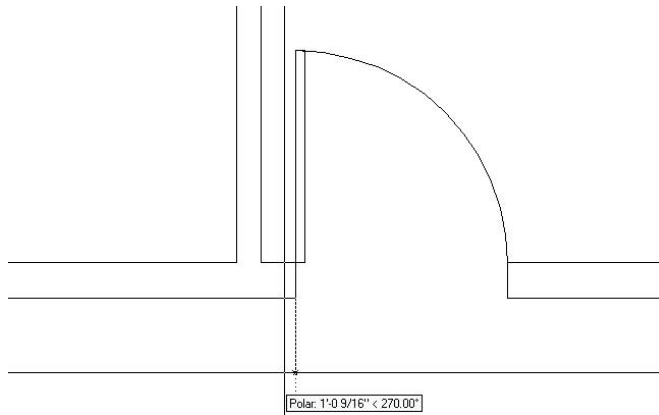

FIGURE 5.4: The Line command running with Polar Tracking on
5. Hold the crosshair cursor so that it is below the first point picked. Do not pick a point yet (see Figure 5.4). A dashed line called a *temporary alignment path* is displayed along with a tool tip that identifies the alignment path as a Polar path; a relative polar coordinate confirms the angle to be 270°. As you move the cursor from left to right, notice that the alignment path and tool tip disappear when you get too far from a point directly below the first point of the line, and they reappear as you get back close to vertical.